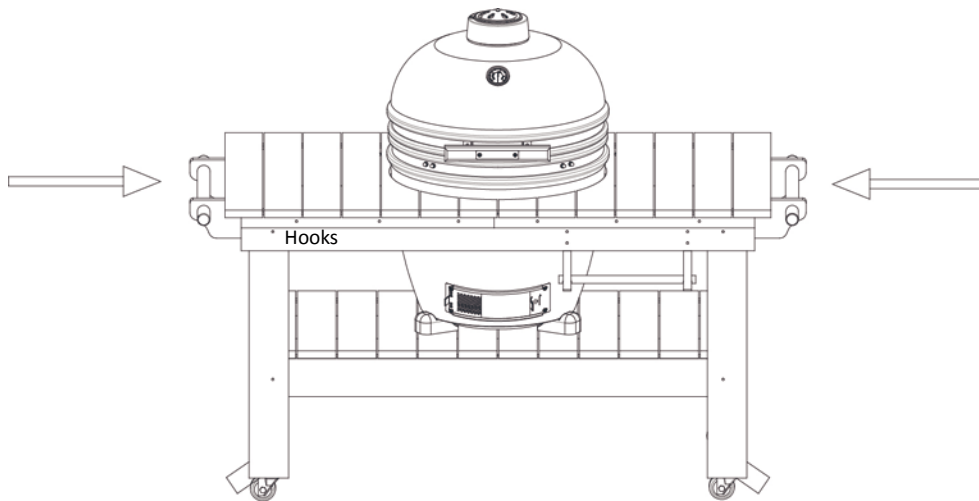

Figure 12
STEP 5 Attach the two top panels of the table. And secure the two tops to the top frame of the wood grill table by screws provided in the table package. (See Figure 12) The table top should fit just under the bottom ring of the grill.